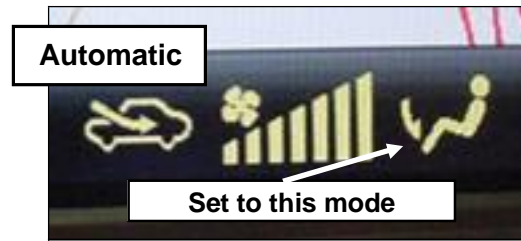
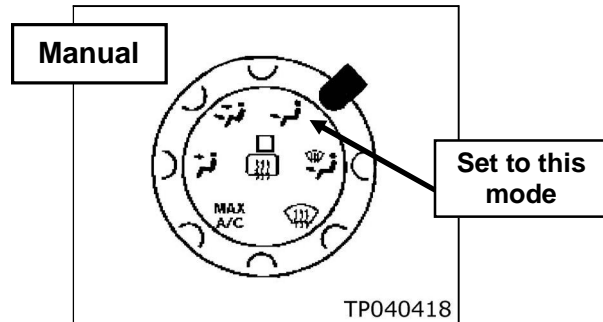

Figure 1
Figure 2
2. Set the Air Flow Control to 'Front and Rear Floor Outlet' mode. See Figure 1 for Automatic A/C, or Figure 2 for Manual A/C.